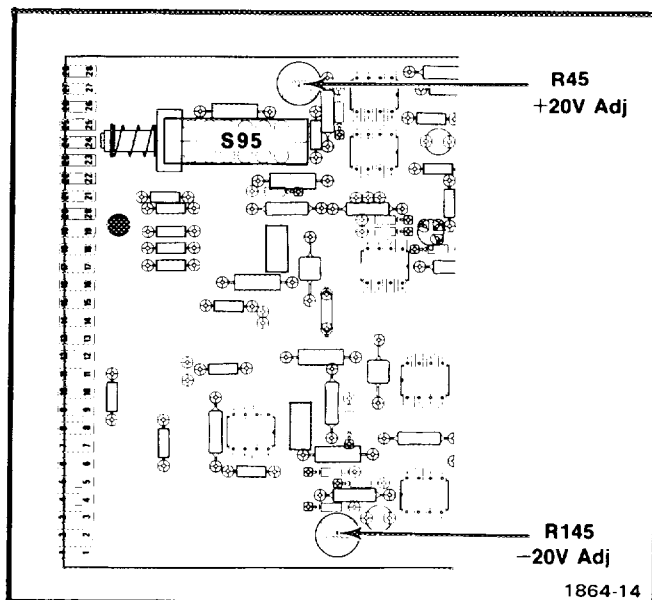

Fig. 3-1. Location of +20 V and –20 V adjustment.
b. Install the PS 503A into the far right (high power) power module compartment, or if appropriate, connect the PS 503A to the power module by means of the flexible plug-in extender. If a flexible extender is used, current limiting switch S95 must be engaged in the maximum current (HI) position. See Fig. 3-1 for switch location.
e. Adjust--R45, +20 Adj, for a meter reading of +20.2 volts, ± 0.1 volt. See Fig. 3-1 for adjustment location.
h. Adjust--R145, -20 Adj, for a meter reading of -20.2 volts, ± 0.1 volt. See Fig. 3-1 for adjustment location.